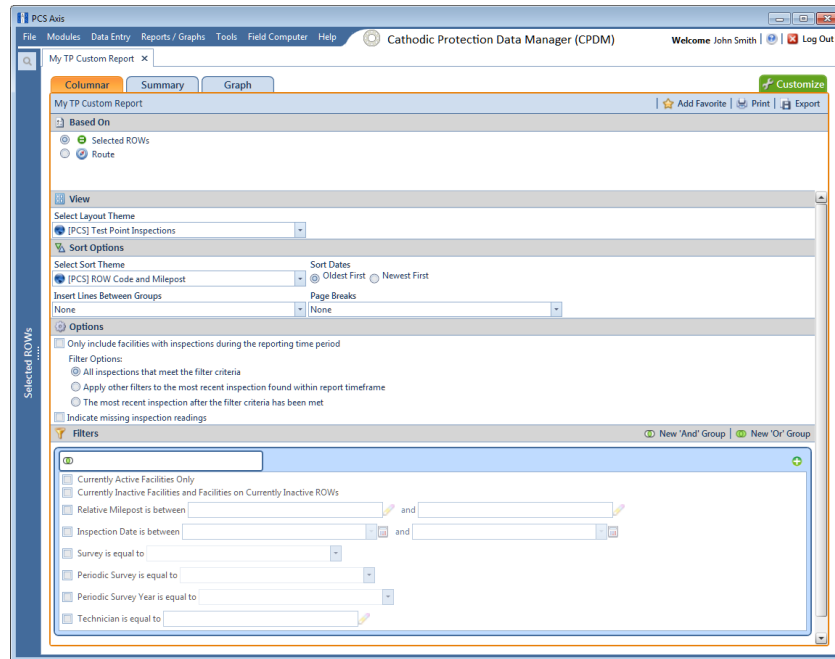

Figure 16-29. Custom Report Options
- 7 When the report options window opens (Figure 16-29), select one of the following options to choose which facility records to include in the report: